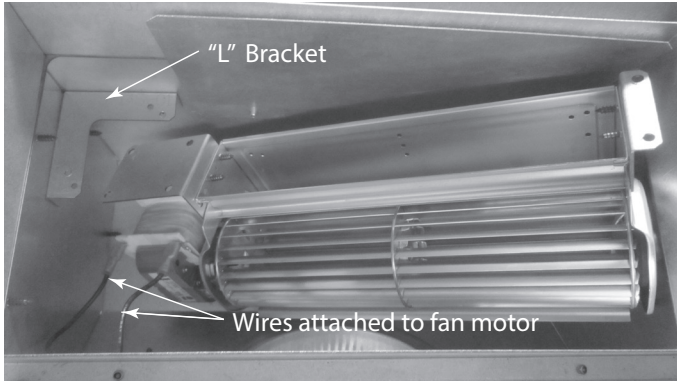

Figure 3.29
- Attach the (2) wires to the spade terminals on the motor.
- Insert fan into the fan housing starting with motor end first. Slip it below the "L" bracket on the left side allowing the right side to drop in. See Figure 3.29.